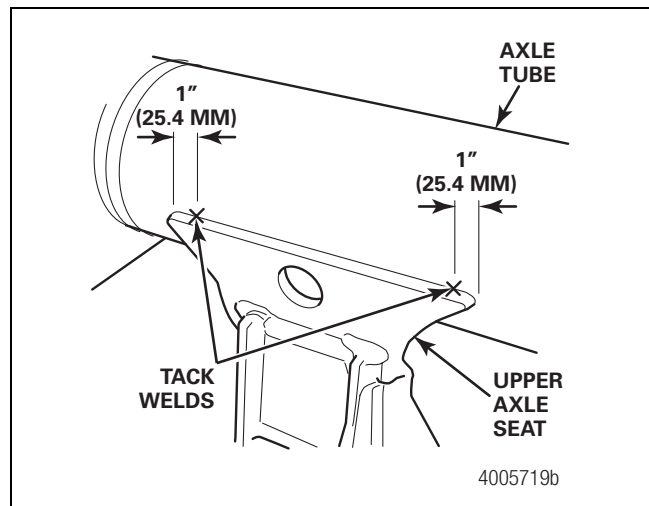

Figure 19
9. Tack weld the axle seats to the axle. The welds should be made one-inch (25.4 mm) in from each corner on each axle seat. Figure 19.